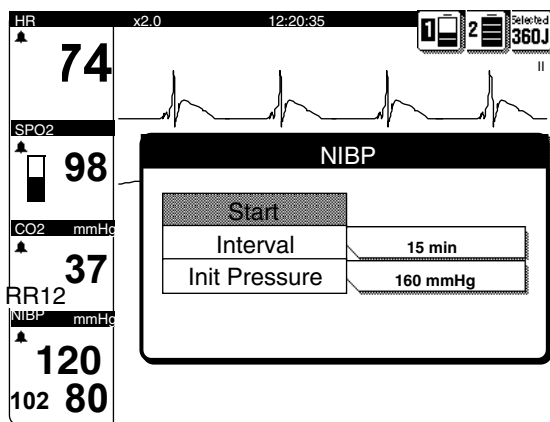

Figure 3-12 NIBP Overlay
- 5 To select an interval, highlight and select NIBP on the Home Screen. Refer to Figure 3-12.